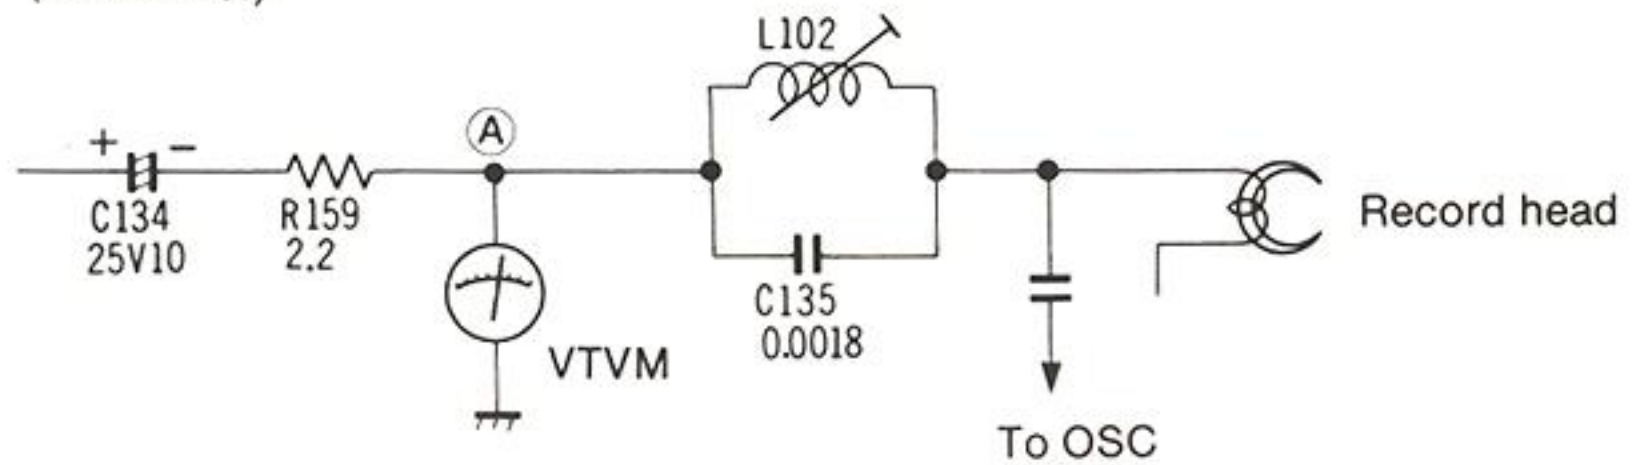

Fig. 40
1. Test equipment connections are shown in fig. 40.
5. Measure and adjust bias trap coil L102 (L-CH) to obtain minimum voltage (less than 3V) at point (A).
7. Measure and adjust the bias trap coil L202 (R-CH) to obtain minimum voltage (less than 3V) at point (B).